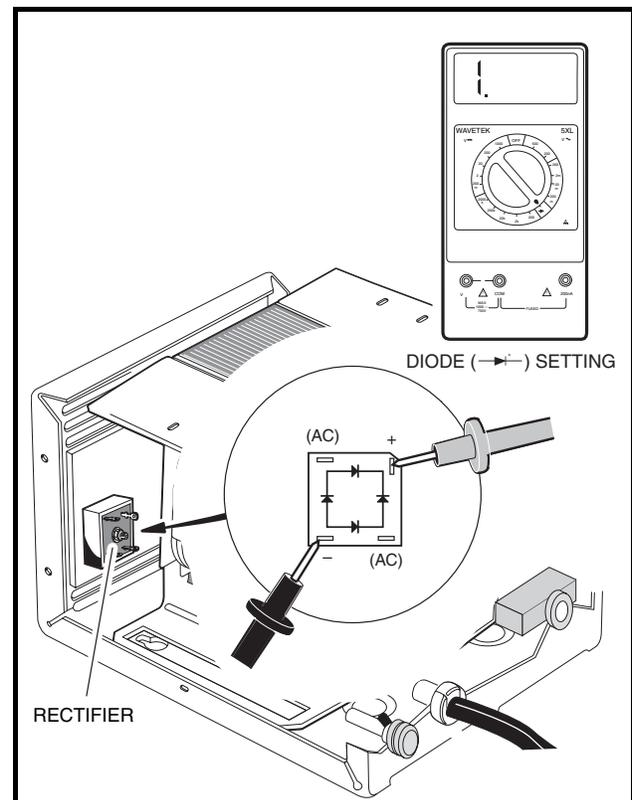

Figure 6-13 Rectifier Test – Probes Reversed
5. Using a multimeter set to the diode test function ($\rightarrow|$), place the black (-) probe of the multimeter on the negative (-) terminal of the rectifier. Move the positive (+) probe to each of the remaining three rectifier terminals and note the readings (**Figure 6-13, Page 6-16**). The multimeter should indicate an overload (no continuity) for all three of the remaining rectifier terminals. If any other reading is indicated, the rectifier has failed and must be replaced.